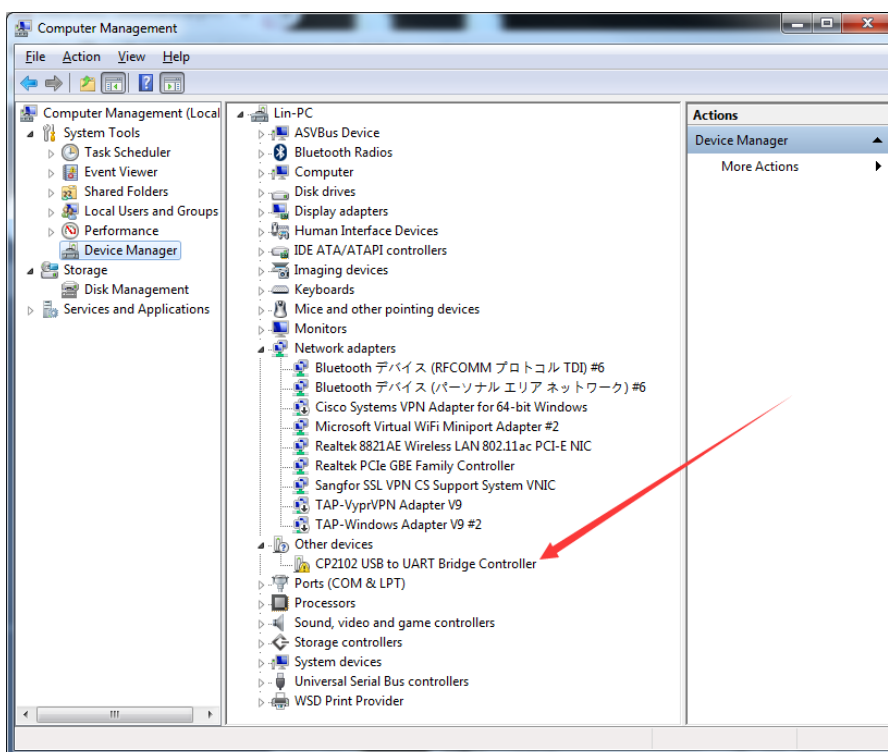
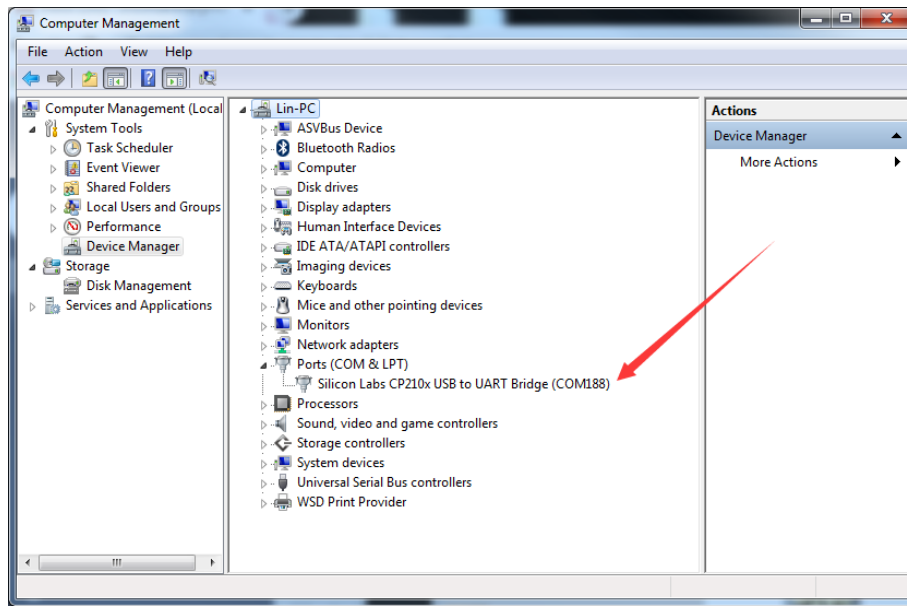

Fig.3.5 . USB driver installation-1
Fig.3.7 . USB driver installation-3
The following section introduces the process of the USB driver installation, as illustrated from Fig. 3.5 to Fig. 3.7 as well.
- 1) After plugging the sensor, Windows will pop out a message of "New hardware discovered", and the hardware will be listed up on the device manager window as showed in Fig. 3.5.
- 3) After installation is completed, the sensor USB connection will be recognized as COM port as showed in Fig. 3.7.